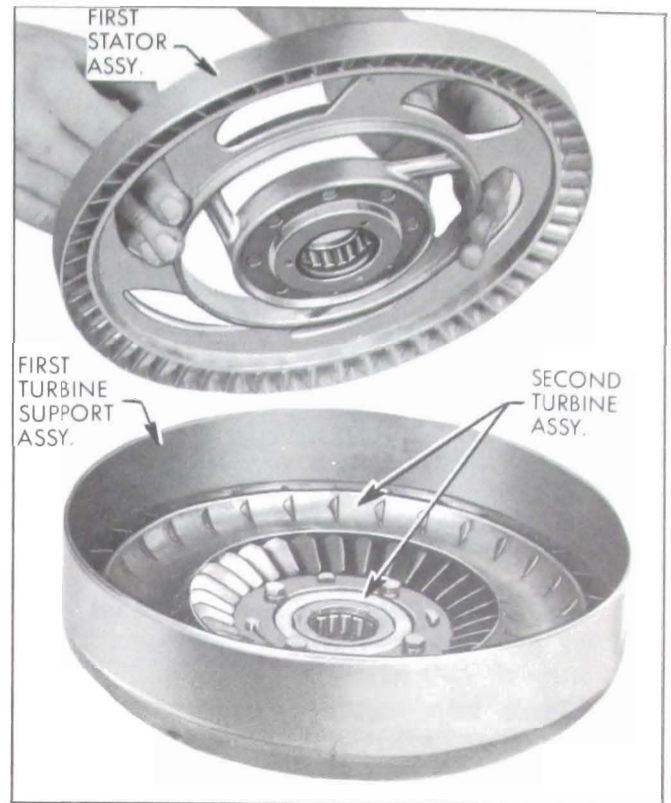

Figure 5-65—Installing First Stator Assy.
13. Lower first stator assembly into turbine support on top of second turbine assembly. Wide edge of stator blades "up." See Figure 5-65.